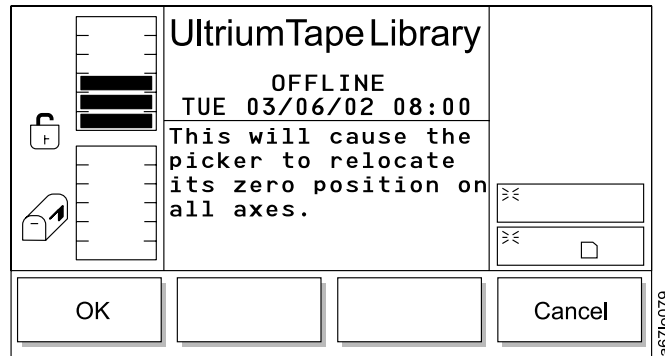

Figure 179. Home Dialog
- If **Home** is selected, the Home Dialog displays (see Figure 179 on page 143).